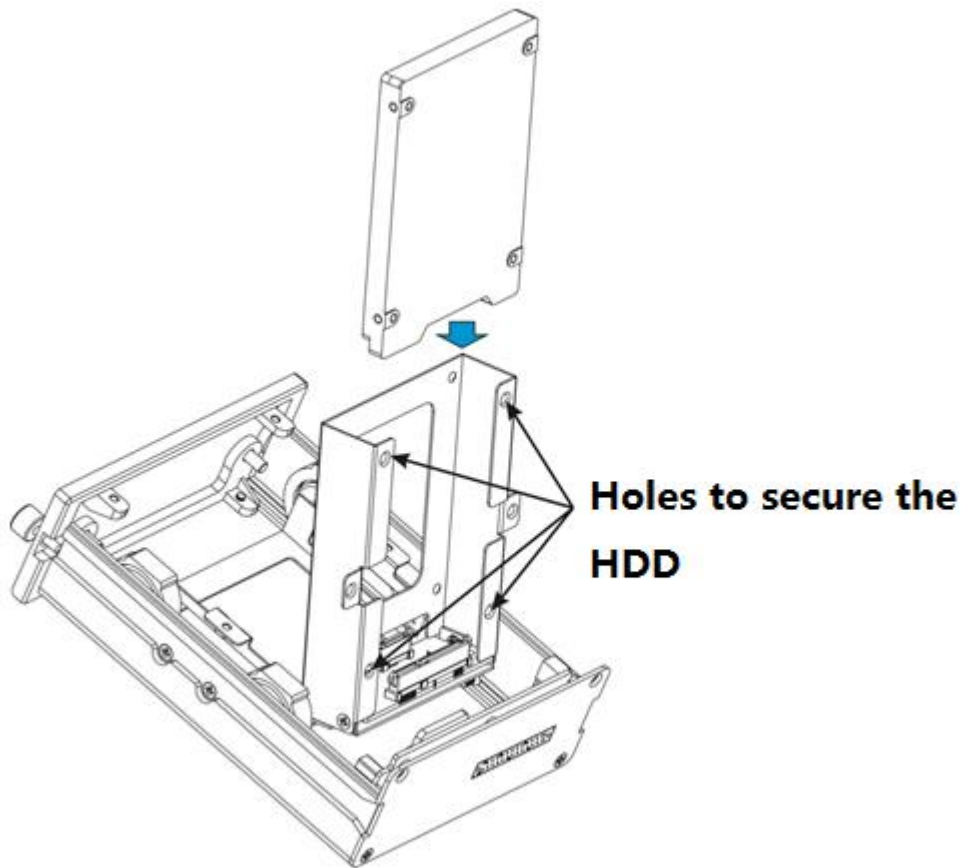

Figure 3-3
- 3) Install the first HDD. Turn the HDD bracket to the top. See Figure 3-3 . Follow the arrow to put the HDD to the HDD bracket. Line up the screw holes of the HDD to the HDD holes and then use the screws to secure firmly.